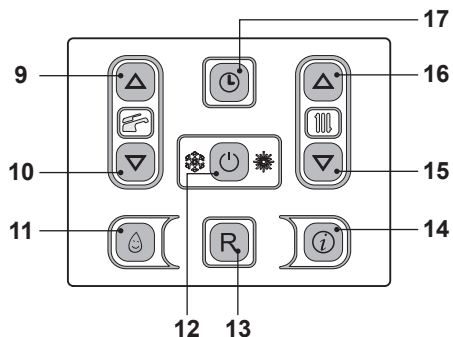
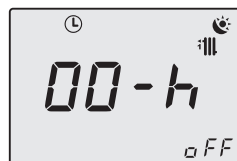

Fig. 2.17
Fig. 2.18
Enter the "timed manual heating function programming menu" by pressing keys 15 and 16 (Fig. 2.17) at the same time for 2 seconds until the symbols shown in Fig. 2.18 appear on the LCD display.
Press key 12 (Fig. 2.17) to modify the function status:
Press keys 9 or 10 (Fig. 2.17) to modify the time interval governing the forced heating function from a minimum of one hour to a maximum of 30 days.
To exit programming without making any modifications, press keys 15 and 16 (Fig. 2.17) at the same time for 2 seconds or wait for 60 seconds.
The function will end when the time set passes or when the function status is set to "oFF". Hold down keys 15 and 16 (Fig. 2.17) at the
Press key 12 (Fig. 2.17) to modify the function status when in "oFF".
To exit programming without making any modifications, press keys 15 and 16 (Fig. 2.17) at the same time for 2 seconds or wait for 60 seconds